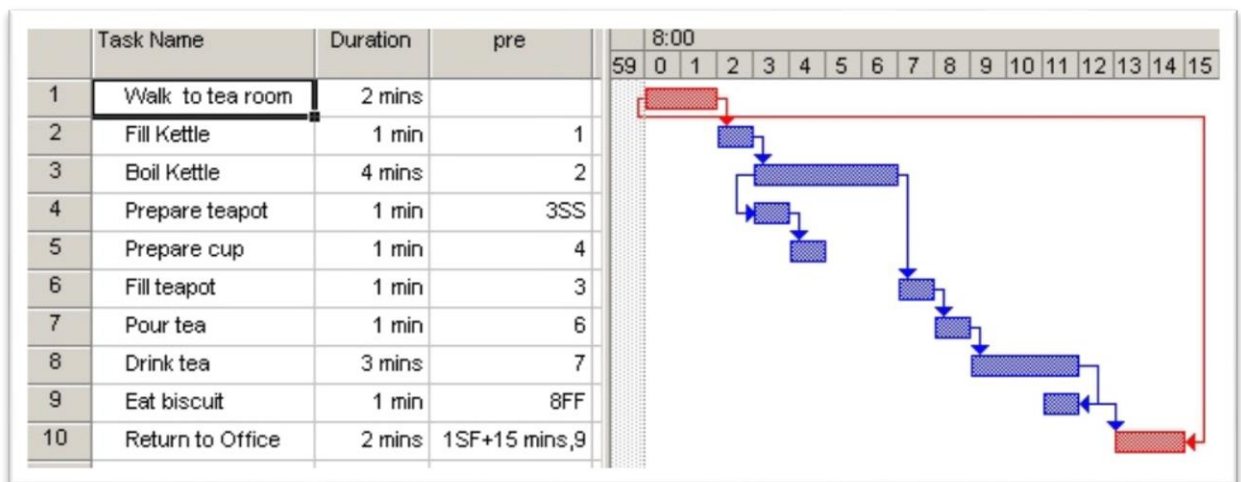

Figure 13
The example in *Figure 13* (following) describes having a tea break and illustrates the four types of dependencies. Most are the default, for example you can only fill the kettle when you have walked to the tearoom (FS).